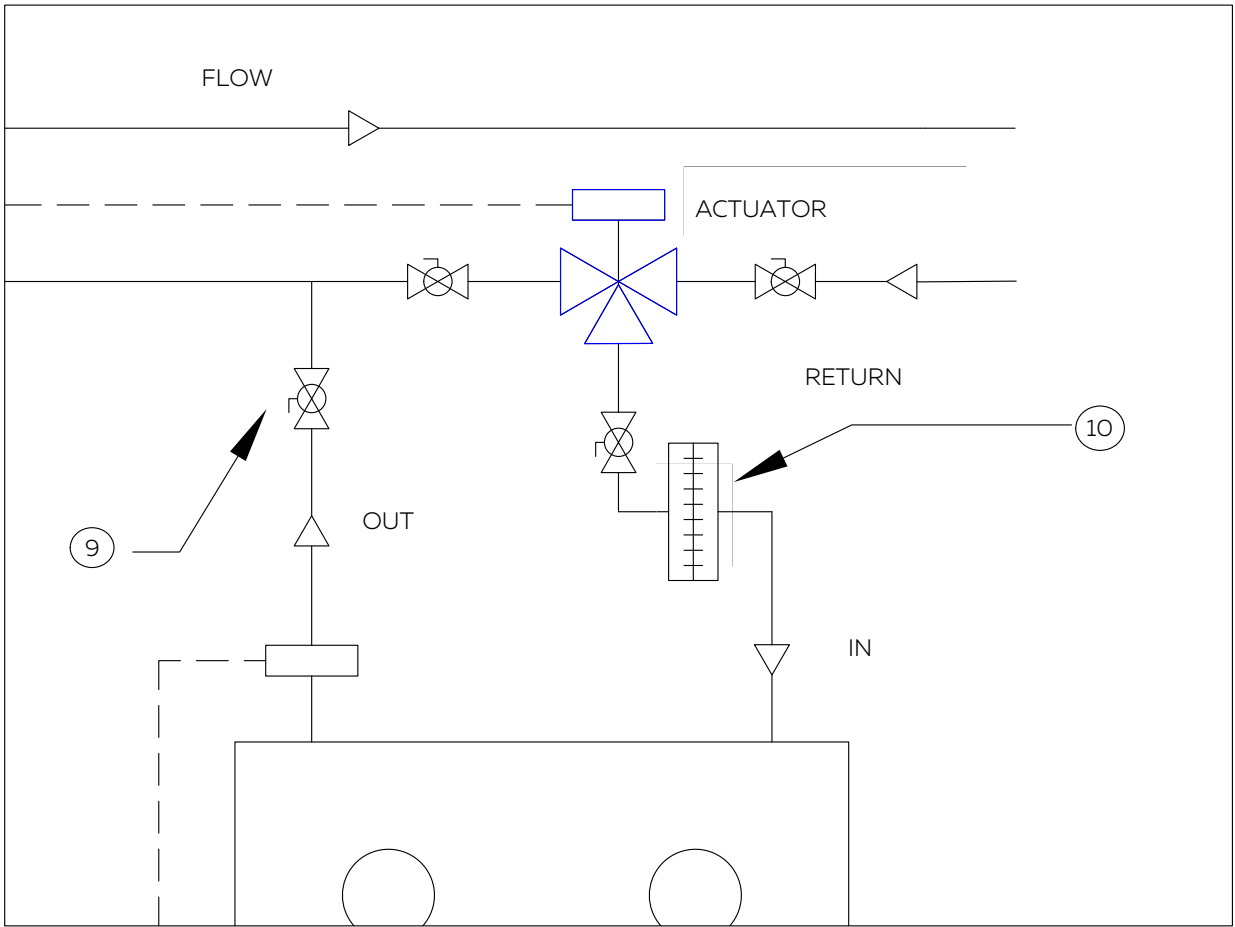

Figure 2 - Plumbing detail for the SVS
Figure 2 shows a detailed view of the three-way valve. Surna recommends installing four union ball valves (9) at the specified locations, to allow the system components to be isolated for any service or replacement. Surna also recommends a flow meter (10) of the customer's choice be installed to measure the flow rate of the inlet water to the dry cooler, as shown in **figure 2**. Consult a licensed plumber in your area if you are not familiar with the installation of this recommended equipment.